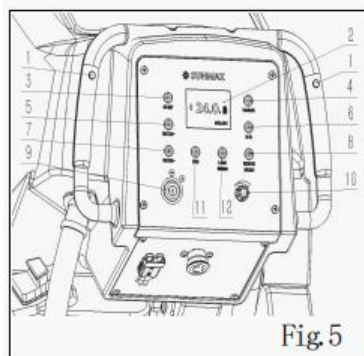

Fig. 5
3. Upper Control Panel Parts of the Machine (Fig. 5)